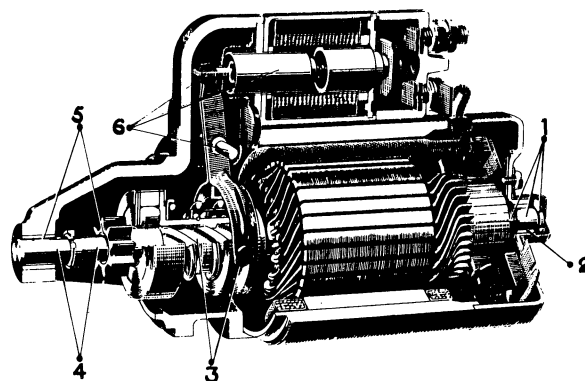

Fig. 3-69. Lubricating scheme for starter motor
1. Lubricate the parts of the starter motor according to Fig. 3-69.